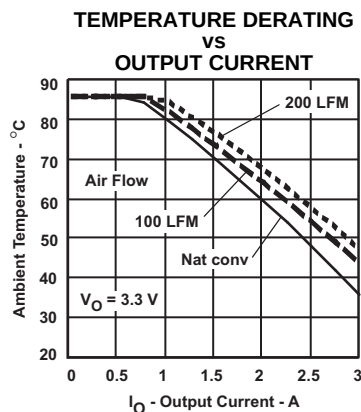
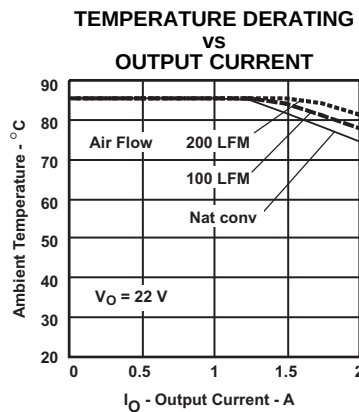

**Figure 22.**
**Figure 26.**
- (2) The temperature derating curves represent the conditions at which internal components are at or below the manufacturer's maximum operating temperatures. Derating limits apply to modules soldered directly to a 100 mm x 100 mm, double-sided PCB with 2 oz. copper. For surface mount packages, multiple vias (plated through holes) are required to add thermal paths around the power pins. Please refer to the mechanical specification for more information. Applies to Figure 22 through Figure 26.